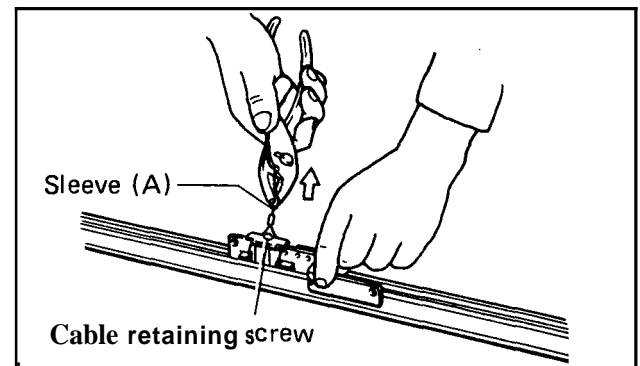

Fig. 18
5. With pliers grab sleeve (A) and gently pull all excess cable. (Fig. 18) While keeping tension on the cable, re-tighten the screw. Check that the cable rides in the groove of the pulley in both housings. If not, realign and repeat steps 4 and 5. Move the closing plate by hand to make sure that the movement is smooth. If it is not, it can be caused by: (1) The cable is twisted, (2) The cable is not properly routed around the pulley wheel, or (3) The cable is not riding correctly in the groove of the pulley. If any of these are the case, make appropriate corrections.